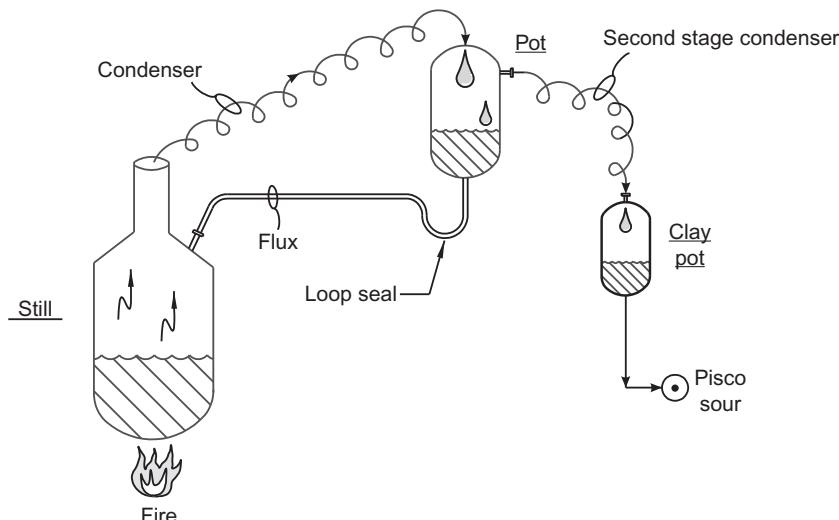

FIG. 3.3 Two-stage distillation apparatus increases purity without reduction in product yield.
- *Step Two*—The first half, I'll use to connect the Still to the vertical pot (Fig. 3.3)
- *Step Four*—The liquid, which condenses (called “FLUX”), that accumulates in the vertical pot, I'll use a rubber hose with a 2 ft long loop, to continuously drain back into the Still (see Fig. 3.3).